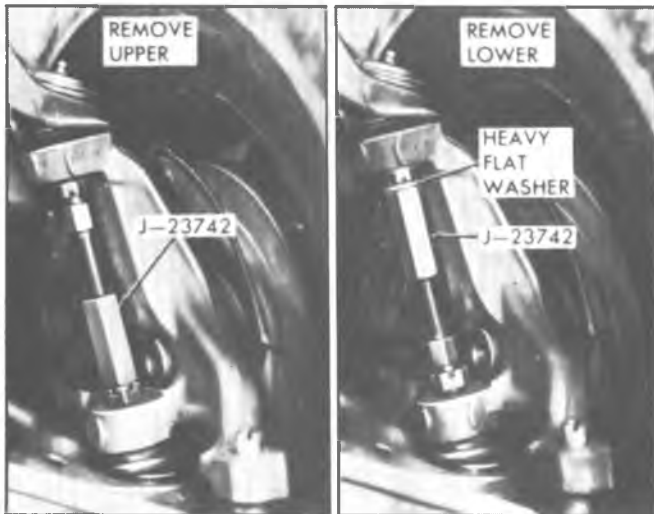

Fig. 34—Disconnecting Ball Joints—Typical
3. Loosen upper control arm ball stud in steering knuckle, using Tool J-23742 position as shown in Figure 34. Remove the nut from the ball stud and raise upper arm to clear steering knuckle.
3. Install J-23742 between the ball studs as shown in Figure 34.
4. Install J-23742 between the ball studs as shown in Figure 34.